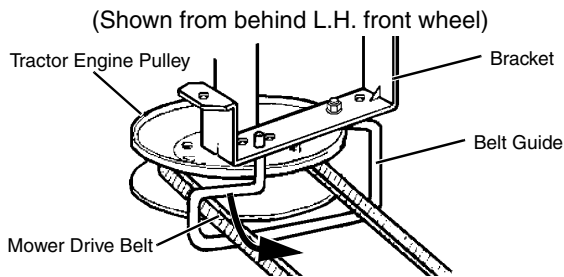

FIG. 9
- Pull down on L.H. side of belt guide and rotate away from engine pulley. Install belt onto pulley and return guide to original position. Insure that the guide is seated into the hole. (See FIG. 9)